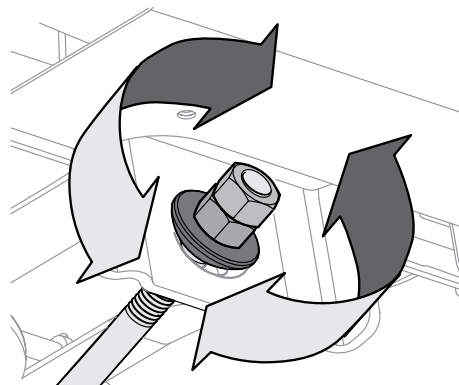

Figure 4-4
4. To *raise* the front of the deck, loosen the outer nut then tighten (thread inward) the nut against the front hanger bracket. See Figure 4-4. When proper adjustment is achieved, re-tighten the outer nut to 25-30 ft.-lbs.
5. To *lower* the front of the deck, loosen the outer nut then loosen (thread outward) the nut, away from the front hanger bracket. See Figure 4-4. When proper adjustment is achieved, re-tighten the outer nut.